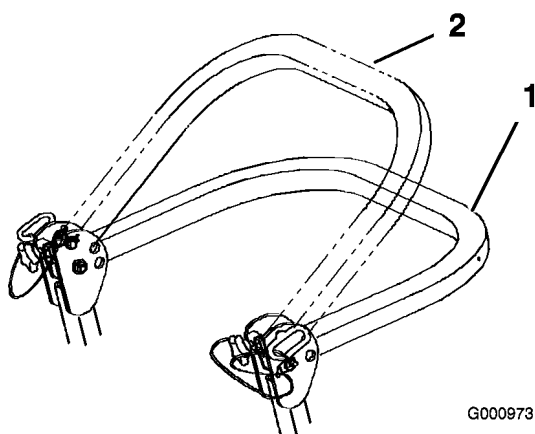

Figure 6
3. Lower the the roll bar to the down position. There are two down positions. See Figure 6 for the positions.